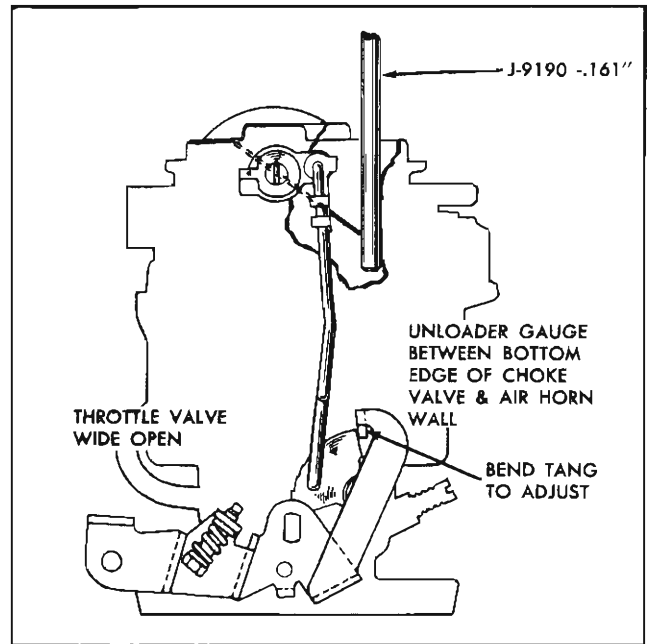

Fig. 6B-12 Unloader Adjustment
**UNLOADER ADJUSTMENT—(Fig. 6B-12)